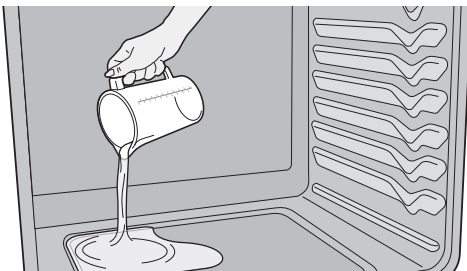

Figure 34: Add 1 cup of tap water
3. Pour 1 cup of tap water onto the oven bottom.(Figure 34) Close oven door.